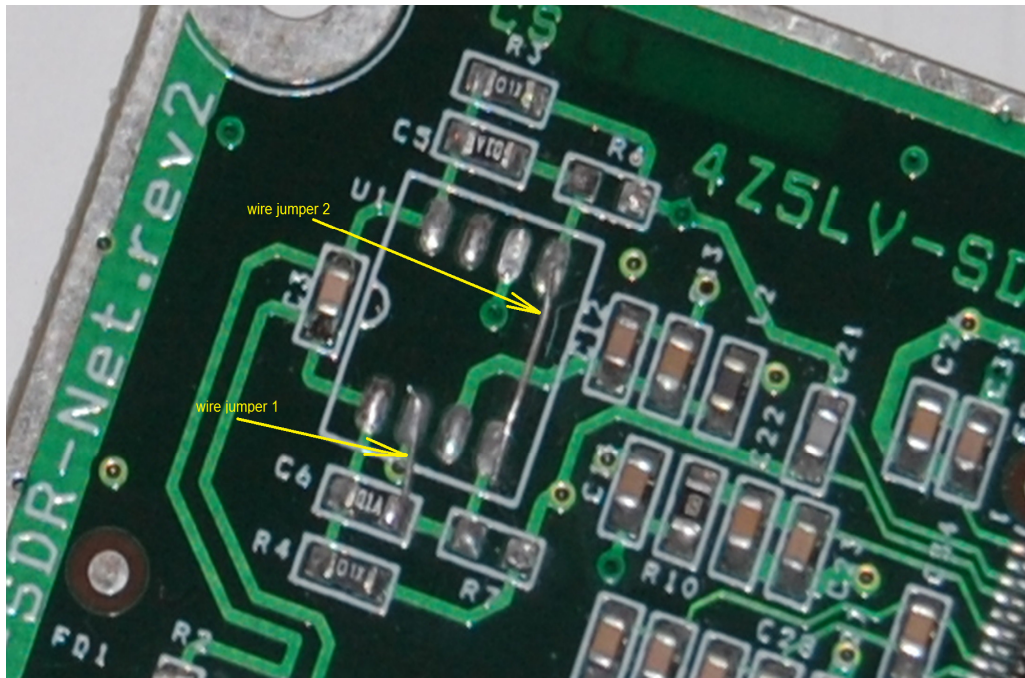

Figure 2 Short cut jumpers soldering (wire-up).
8. Solder short cut jumper (wire-up) between the pads number 4 and 5 of U1 (see Figure 2)
9. Solder short cut jumper (wire-up) from the pad number 2 of U1 to right pad of capacitor C6 (see Figure 2). (there should be installed resistor 100 Ohm as described in paragraph 7).